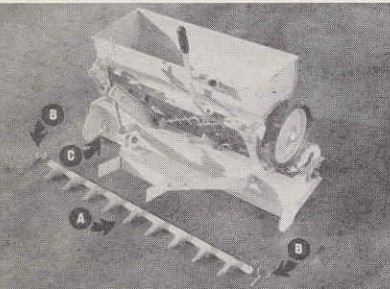

Figure 4
To attach scarifying bar (A) Figure 4 remove klik pins, (B) Figure 4 insert bar into slots of wings at (C) Figure 4. Reinsert klik pins outside of wings.